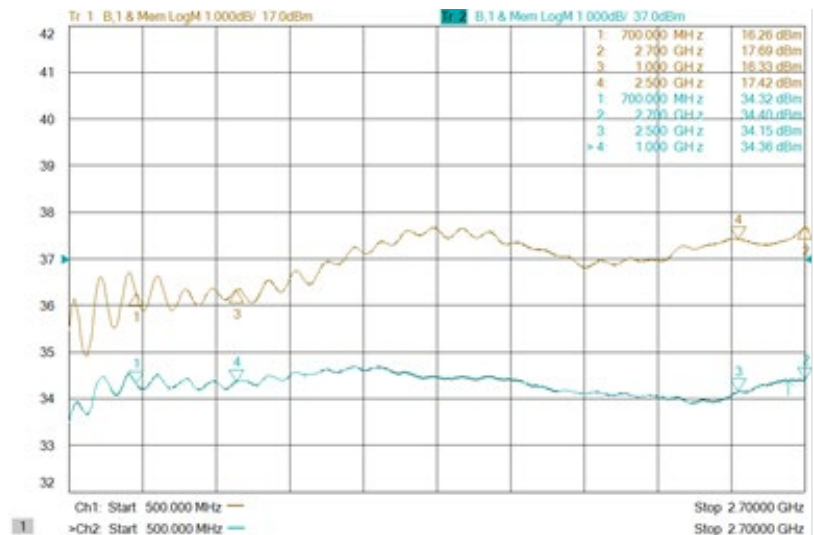

Figure 4-7. Typical A1 Pre-Amplifier Response
NOTE: The A1 Pre-Amplifier's response may differ considerably—particularly in flatness—from the typical responses shown in the Figure 4-7.
- The typical response for the A1 Pre-Amplifier (at maximum gain setting) is shown in Figure 4-7.